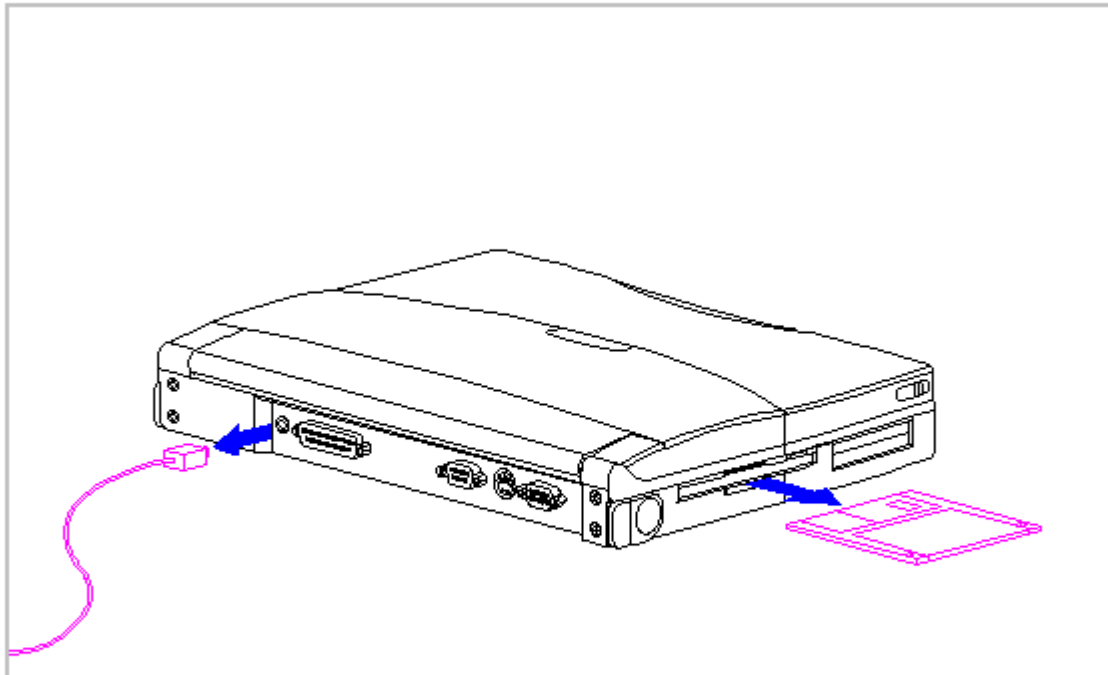

Figure 5-3. Disconnecting the AC Adapter and Ejecting the Diskette
5. Disconnect the AC Adapter power cord from the computer (Figure 5-3).
6. Eject the diskette (Figure 5-3).